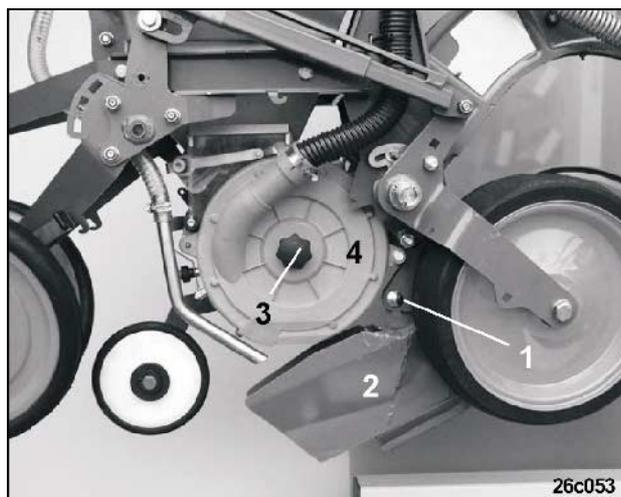
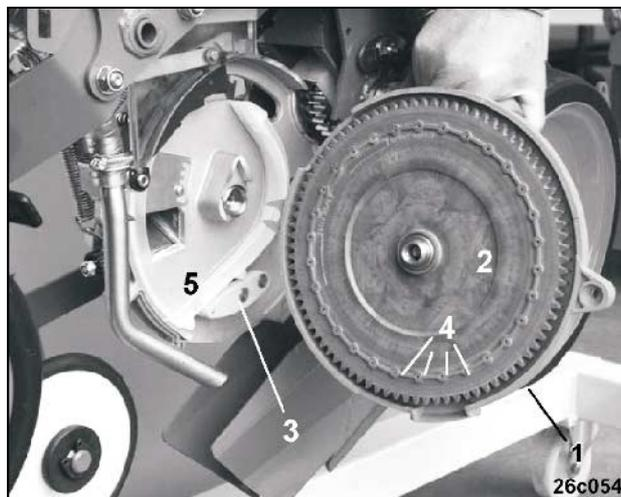

Fig. 65
Fig. 66
- Slacken the rear bolt (Fig. 65/1) of the coultter bracket and swivel the coultter (Fig. 65/2) downwards.
- Slacken plastic counter nut (Fig. 65/3) and remove the suction cover (Fig. 65/4) with the singling disc (Fig. 66/2) in sideways direction
On singling discs with very small holes (e.g. singling disc for sorghum burgundy 60/2,2) exchange the ejector (Fig. 66/3) for the supplied yellow ejector with its smaller ejector ball.
The naps (Fig. 66/4) must face towards the housing (Fig. 66/5) and not towards the suction cover (Fig. 66/1).